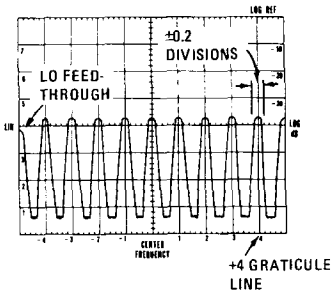

Figure 5-7. 47 MHz LO Adjustment Display
- 6. Using non-metallic tuning tool, slowly adjust 8552A A3A2C4 (see Assembly and Adjustment Locations photo in 8552A manual) until the LO feedthrough appears on the CRT (about ± 1 turn); then adjust 8552A A3A2C4 until LO feedthrough is centered on far left graticule line (see Figure 5-7).